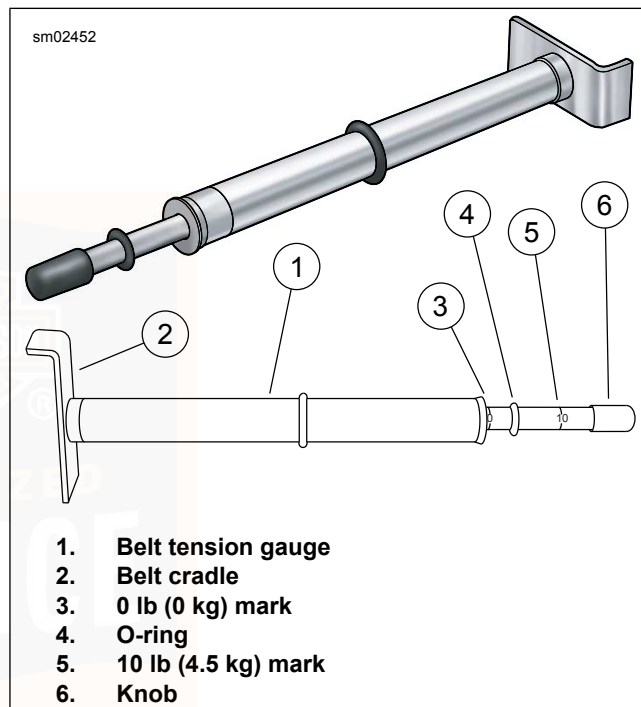

Figure 32. Belt Tension Gauge
3. See Figure 32. Measure belt deflection using: